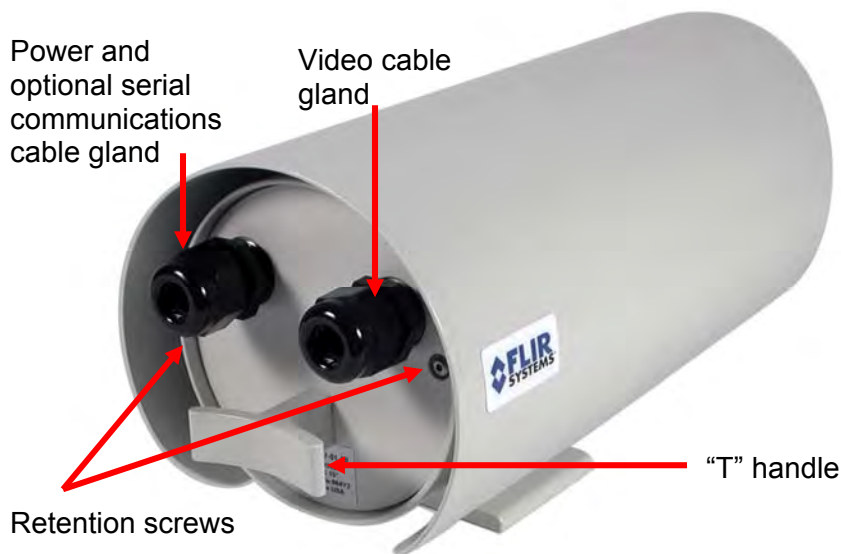

Figure 3-1: Rear view of SR-Series camera
1. Loosen the two captive hex screws from the rear of the camera enclosure using a 1/8" hex wrench as shown in Figure 3-1.